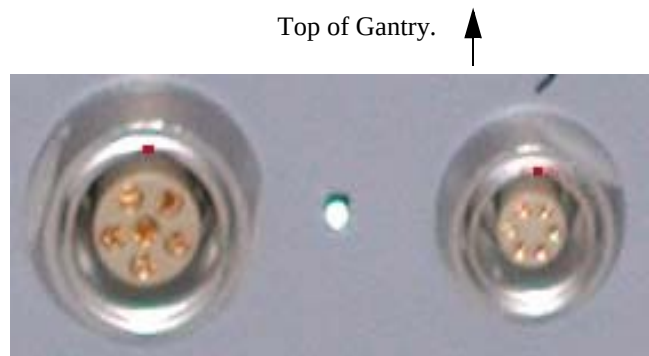

Figure 2-6 Orientation of Connectors
- a.) With the outer conical nut removed, insert a lemo connector through the appropriate hole in the faceplate, with the red dot facing UP (see Figure 2-6, on page 27).